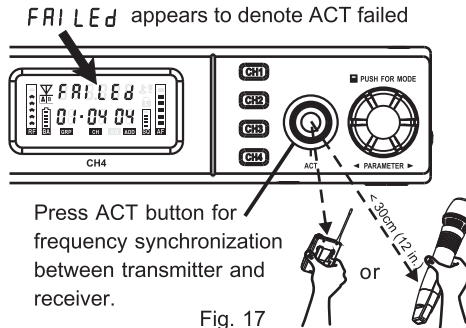

Fig. 17
(F) ACT Sync Setting. Fig. 17: